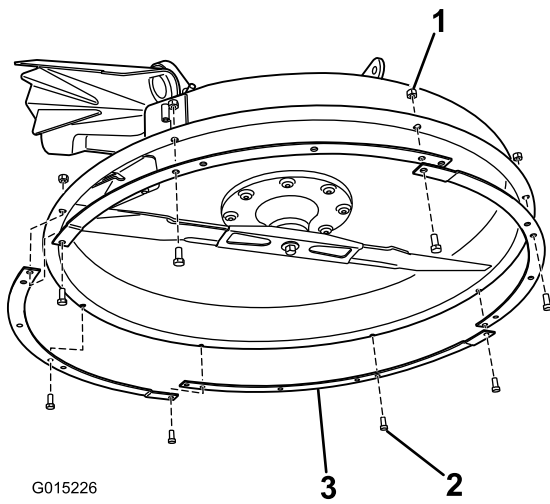

Figure 25
1. Install the interlocking deck rings to the bottom of the mower (Figure 25).